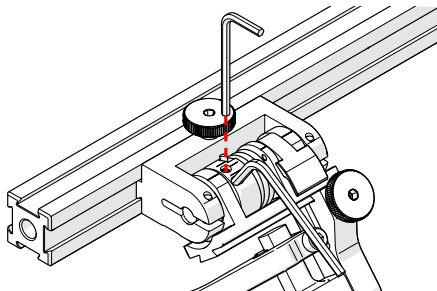

Fig. 209 - Insert hex tools
4. Place the 2 mm hex wrench into the force adjustment screw (Fig. 209).